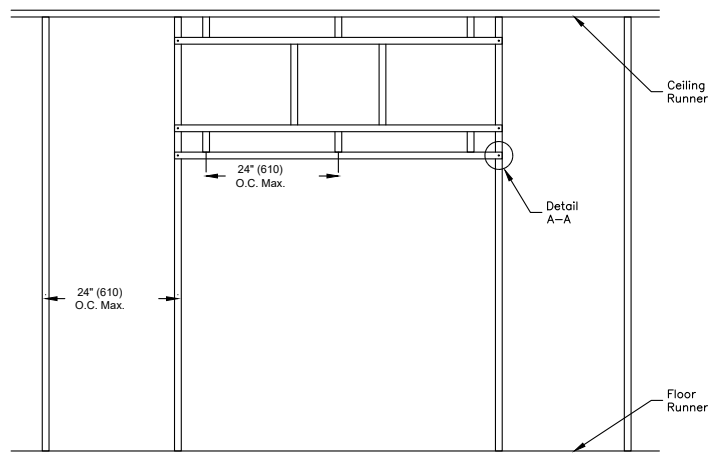

**Figure 1**
- Frame wall openings as shown below (see **Figure 1, 2, and 2A**).